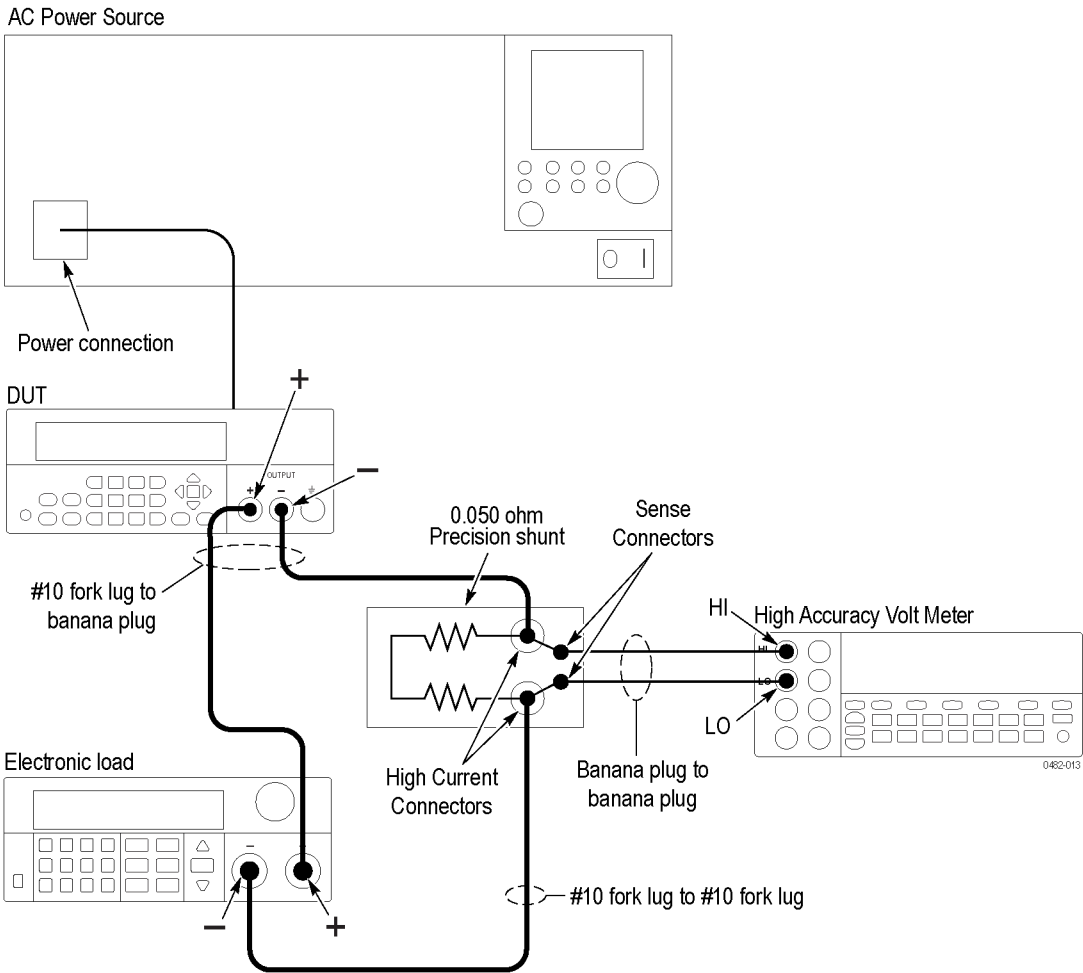

Figure 2: DC current test setup
1. Set up the equipment as shown. (See Figure 2.)